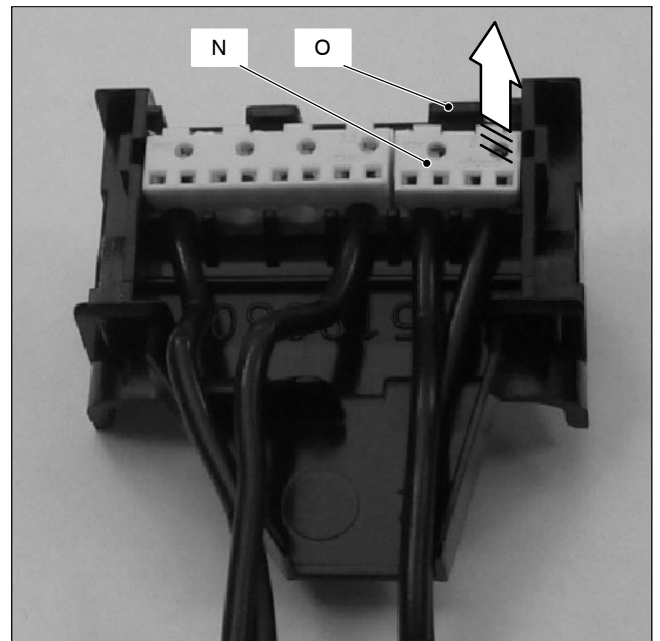

Fig. 7.6
- 4 Remove the capacitor connection block *N* freeing it from the hook *O* and pulling it as indicated by the arrow (Fig. 7.6).